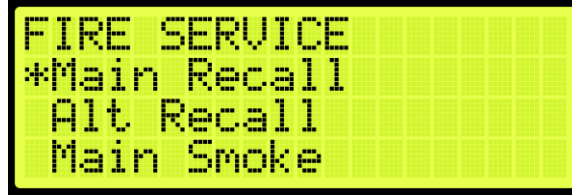

Figure 514: FIRE SERVICE Menu – Main Recall
- From the FIRE SERVICE menu, scroll and select Main Recall (See Figure 514).